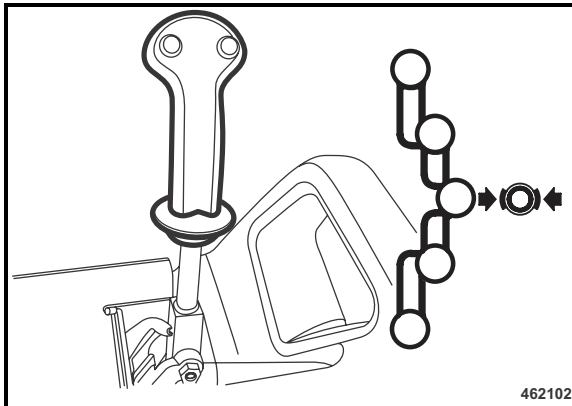

Fig. 91
- Stop the machine. Shift the travel lever (Fig. 91) slowly back to neutral position and lock it in parking brake position.